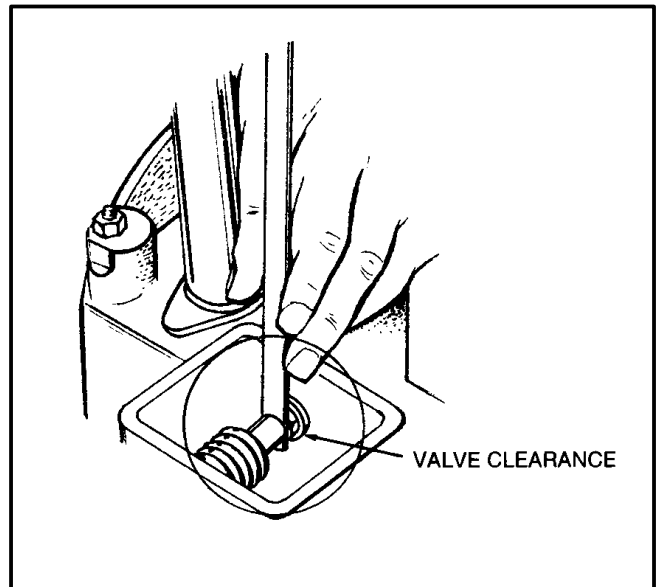

FIGURE 10-2. VALVE CLEARANCE MEASUREMENT
5. The correct feeler gauge for the valve adjustment (see Section 2. *Specifications*) should pass freely between the valve cap and the tappet; a 0.002 inch (0.05 mm) thicker gauge should not. See Figure 10-2.